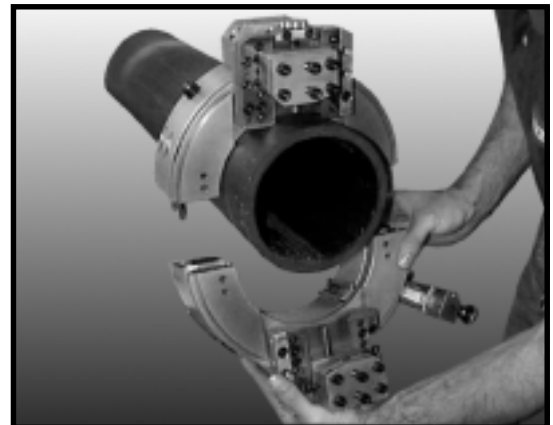

FIGURE 7
- fit and press the halves together (Figure 7).